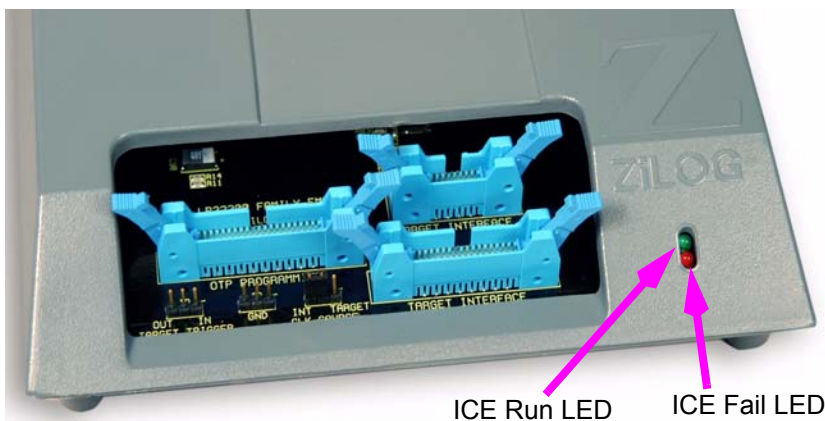

Figure 12. Crimzon ICE Front-Panel
2. Connect a 5VDC power supply to the Crimzon ICE. The 3.3VDC and 1.8VDC power LEDs should illuminate (see Figure 11). If either power LED fails to illuminate, or if the ICE Fail LED either blinks continuously or fails to extinguish after 15 seconds (see Figure 12), there is a problem with the unit. Contact ZiLOG support at <http://www.zilog.com> for a replacement unit.